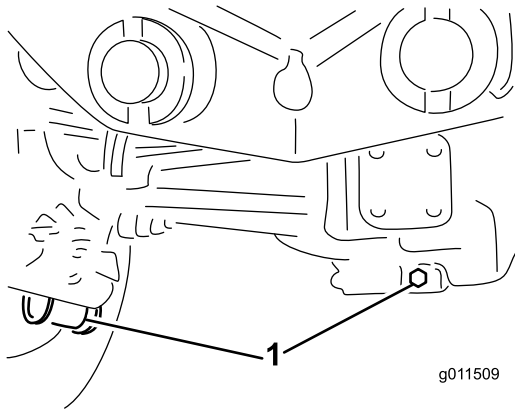

Figure 64
2. Clean the area around the 3 drain plugs; 1 on each end and 1 in the center (Figure 64).